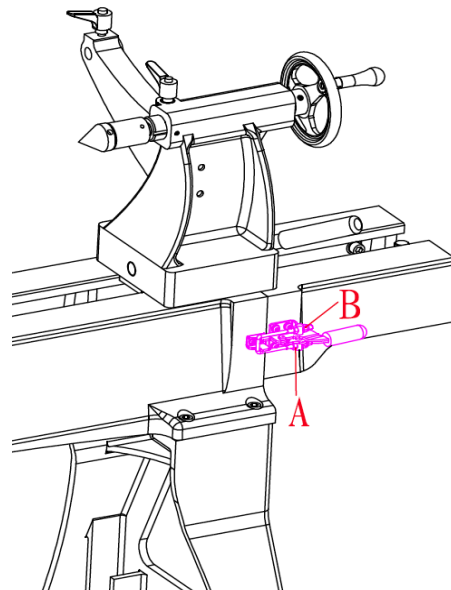

Fig. 12
- 7.,Mount clamping device on both lathe and extension bed as shown on Fig.12.